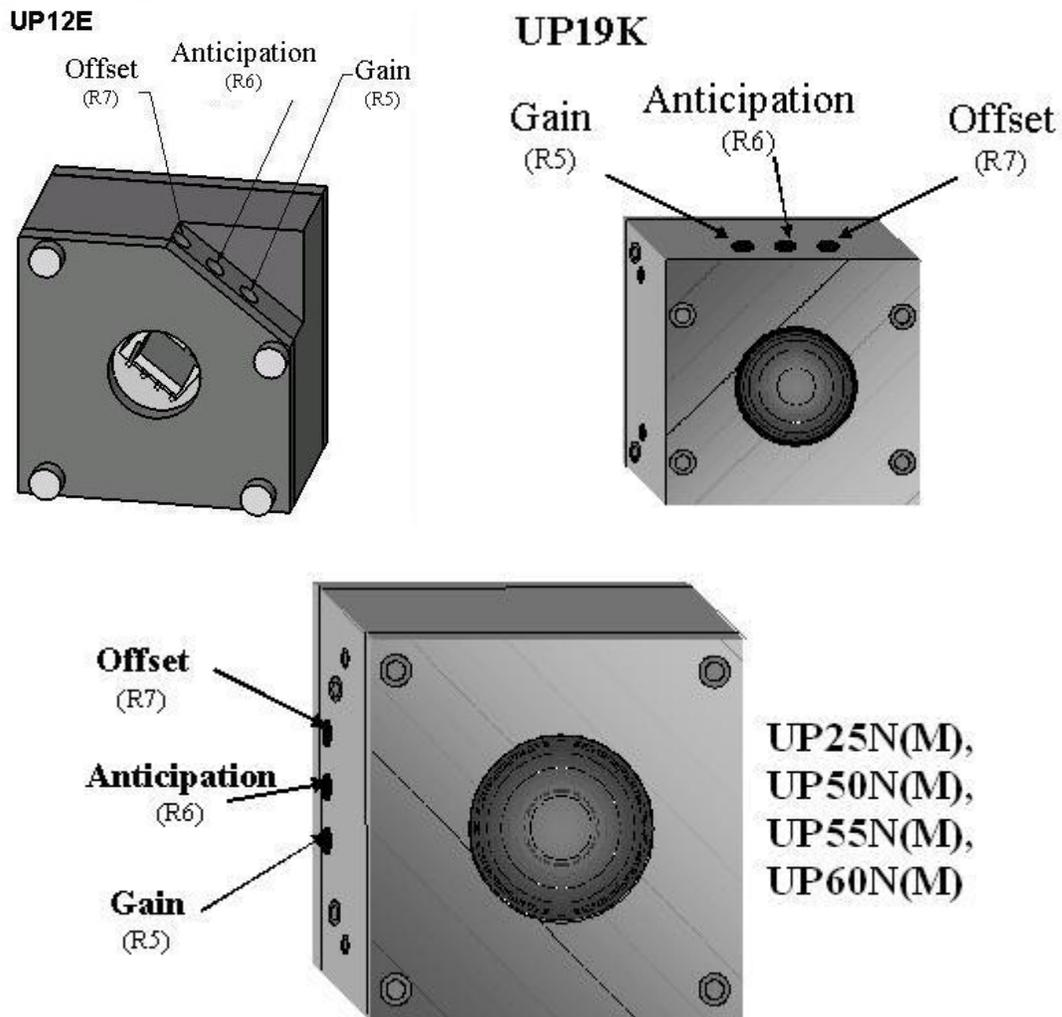

FIG. 1-10 POTENTIOMETER POSITIONS
1. Required specifications for customer-supplied back module are given in Fig 1-10 through 1-12. Note that tapped holes must be electrically conductive, and that there has to be at least bare spots to allow electrical contact with detector (see point 5.).